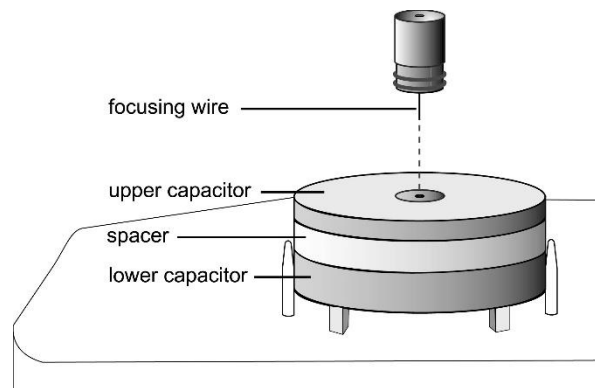

Figure 3: Insertion of the focusing wire into the top capacitor plate
2. Unscrew the focusing wire from its storage place on the platform and carefully insert it into the hole in the center of the top capacitor plate (Figure 3).